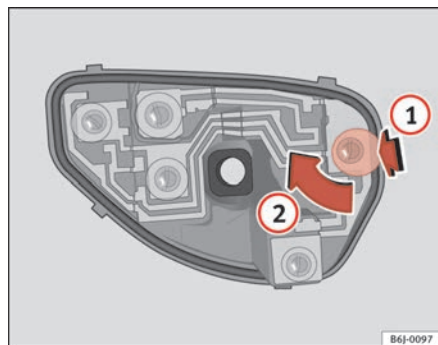

Fig. 146 Changing bulbs on rear lights
- When the lamp holder has been removed, press in the direction of the arrow (1) and at the same time, turn in the direction of the arrow (2) ⇒ fig. 146. ■